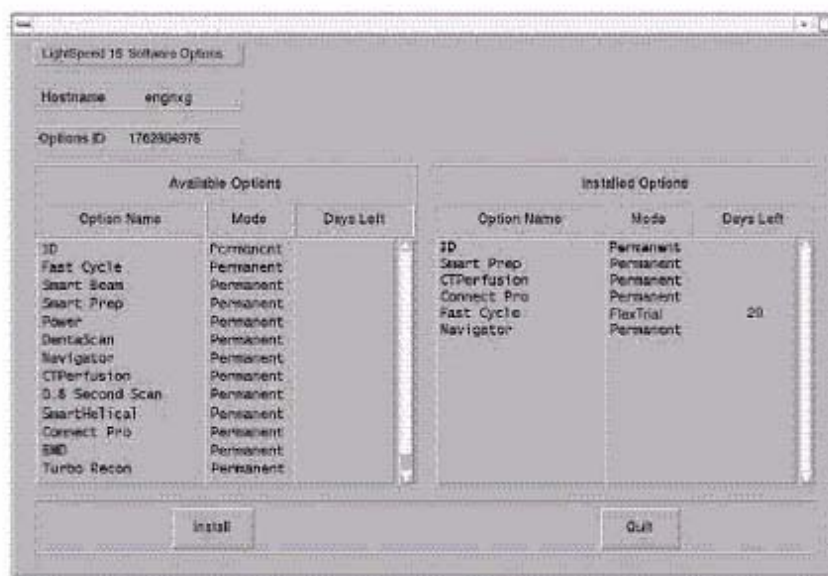

Figure 4-21 Software Options screen
- 9.) Click OK. Available options appear on the Software Options screen (Figure 4-21).